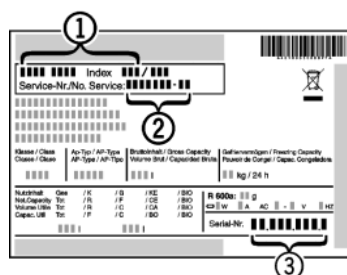

Fig. 22
- Read off the appliance name *Fig. 22 (1)*, service no. *Fig. 22 (2)* and serial no. *Fig. 22 (3)* from the model plate. The model plate can be found on the inside of the appliance on the left.